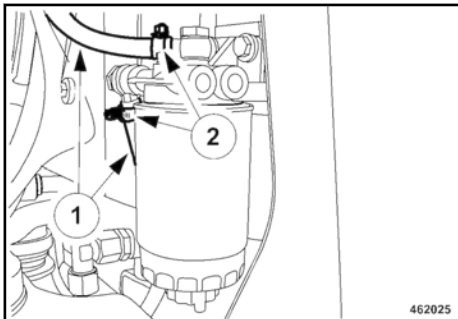

Fig. 131
Check the condition and tight fit of all fuel lines (1) → Fig. 131 and hose clamps (2).